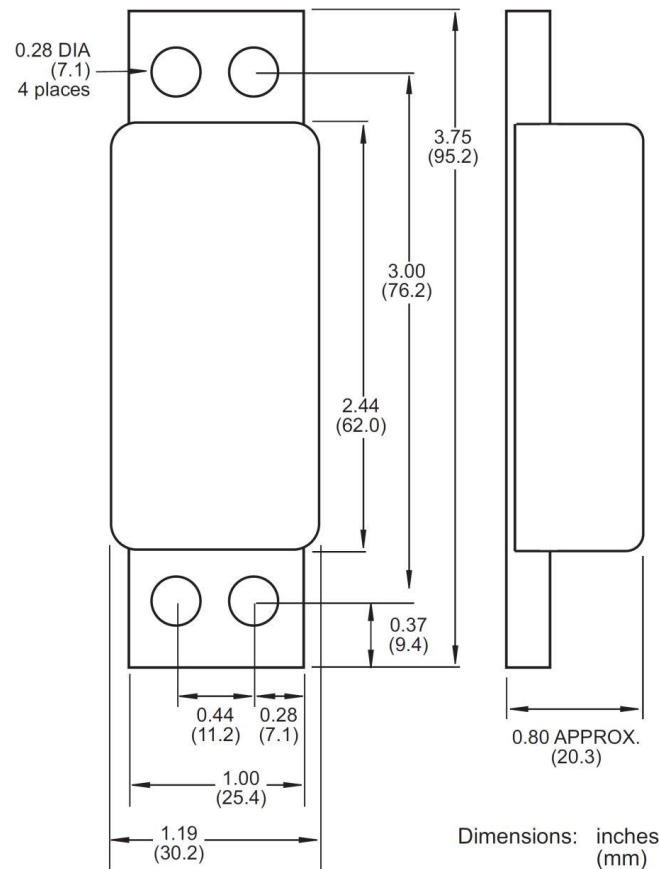

Figure 2-8. Strain Link: Mounting Dimensions
5. Connect the ground (green or green/yellow) wire to the ground stud on the ceiling at the top right of the enclosure, as shown in Figure 2-8. To make the connection, strip the ground wire about 1/4" (6.4 mm) from the end, loosen the screw on the ground stud, slide the wire into the hole, and tighten the screw to pin the wire in place.
6. Remove the connector from terminal block TB103 at the top right of the AutoSetPAC processor board, and connect the remaining AC wires as shown in Figure 2-8 and Table 2-1, page 38.
A ground wire is attached from pin #4 on the TB103 connector to a case lug, as shown in Figure 2-8. It is recommended that you not remove this wire while making connections, but if you do, make sure to reconnect it when you are done.